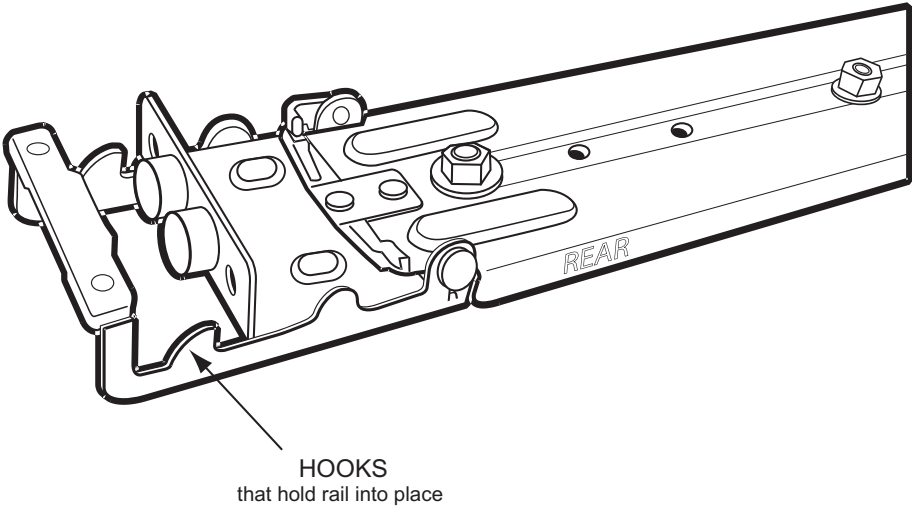
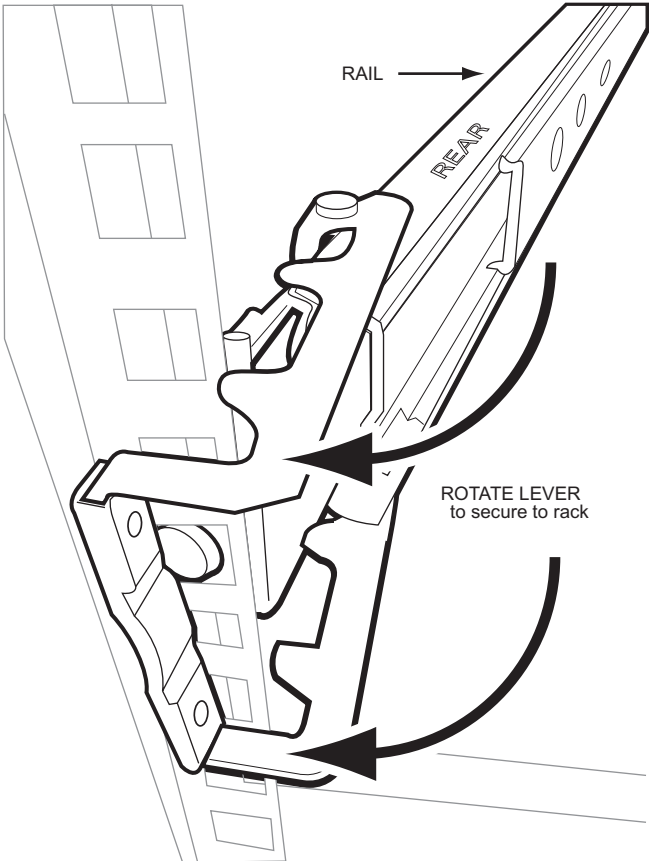

Figure 2.2 Detail View of Slider Rail Rear Retaining Hooks
Figure 2.3 Detailed View of Slider Rail Rear Retaining Hooks being Locked onto the Rear of the Equipment Rack
- 1b. Attach the rear end of the slider rail to the rear edge of the equipment rack. See figure 2.2 on page 15 and figure 2.3 on page 15.